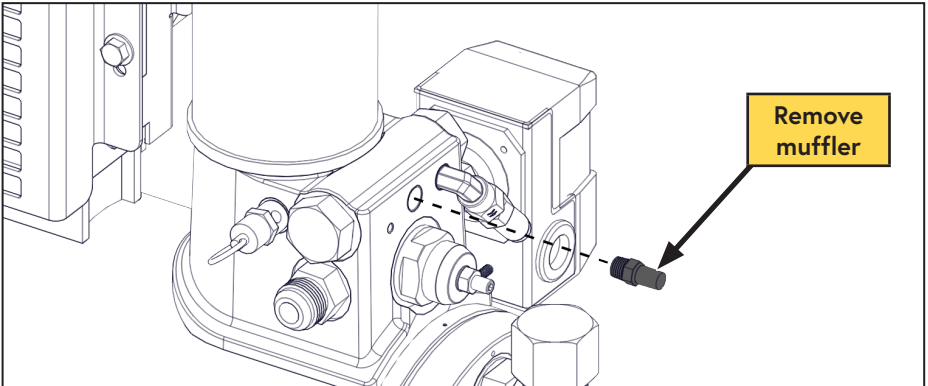

Figure 34 — Remove blowdown muffler
- Remove the blowdown muffler from the side of the WHASP Tank (below the coalescing filter) (Figure 34).